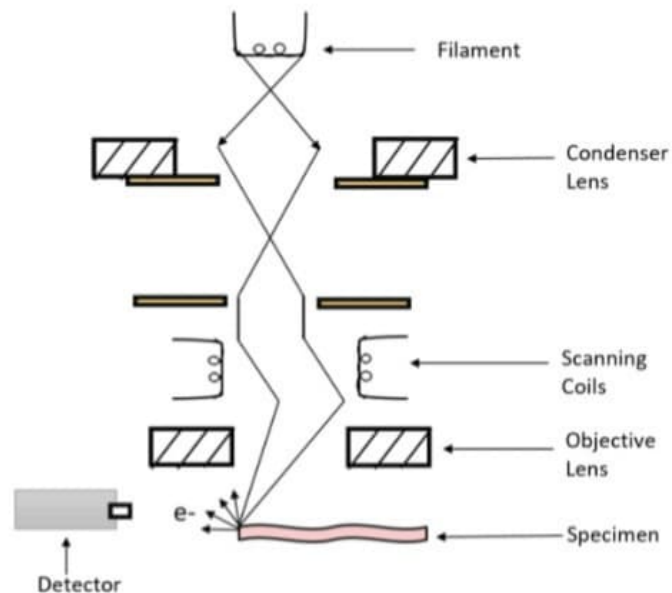

Figure 5.3.1: Scanning Electron Microscope
- Here as shown in Figure 5.3.1 electron beam is obtained from electron gun and it is made to pass through a condenser lens. Next stage is the scanning coil which is used to focus the electron beam on a small spot-on specimen surface and also to scan the surface like electron beam scans in TV picture tubes.